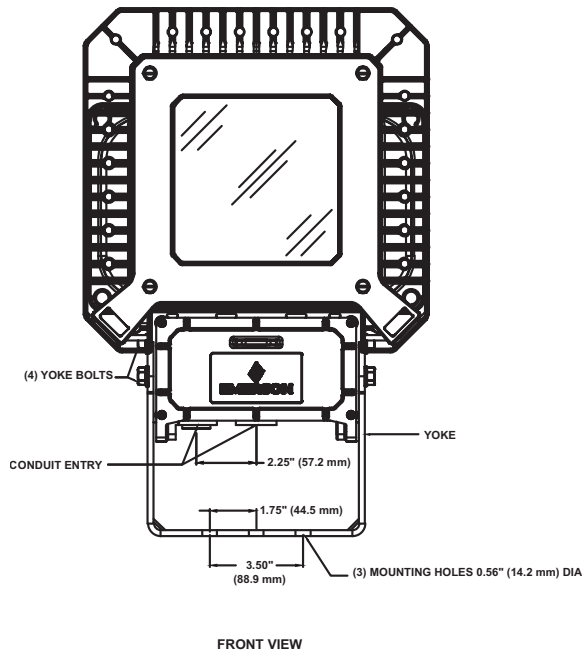

Figure 2: Luminaire with Yoke
The Areamaster GEN 2 LED luminaire with yoke (supplied) will mount directly onto flat surfaces. The yoke has a center clearance hole for a 1/2 inch (12.7 mm) bolt and two 1/2 inch (12.7 mm) clearance holes spaced 3-1/2 inches (88.9 mm) apart on the yoke center line. See Figure 2.
1. Mount the luminaire with yoke to a flat surface using user-supplied hardware. See Figure 2 for mounting hole locations.
2. Slightly loosen the four yoke bolts and tilt the luminaire to the desired position with your free hand. See Figures 2 & 3.